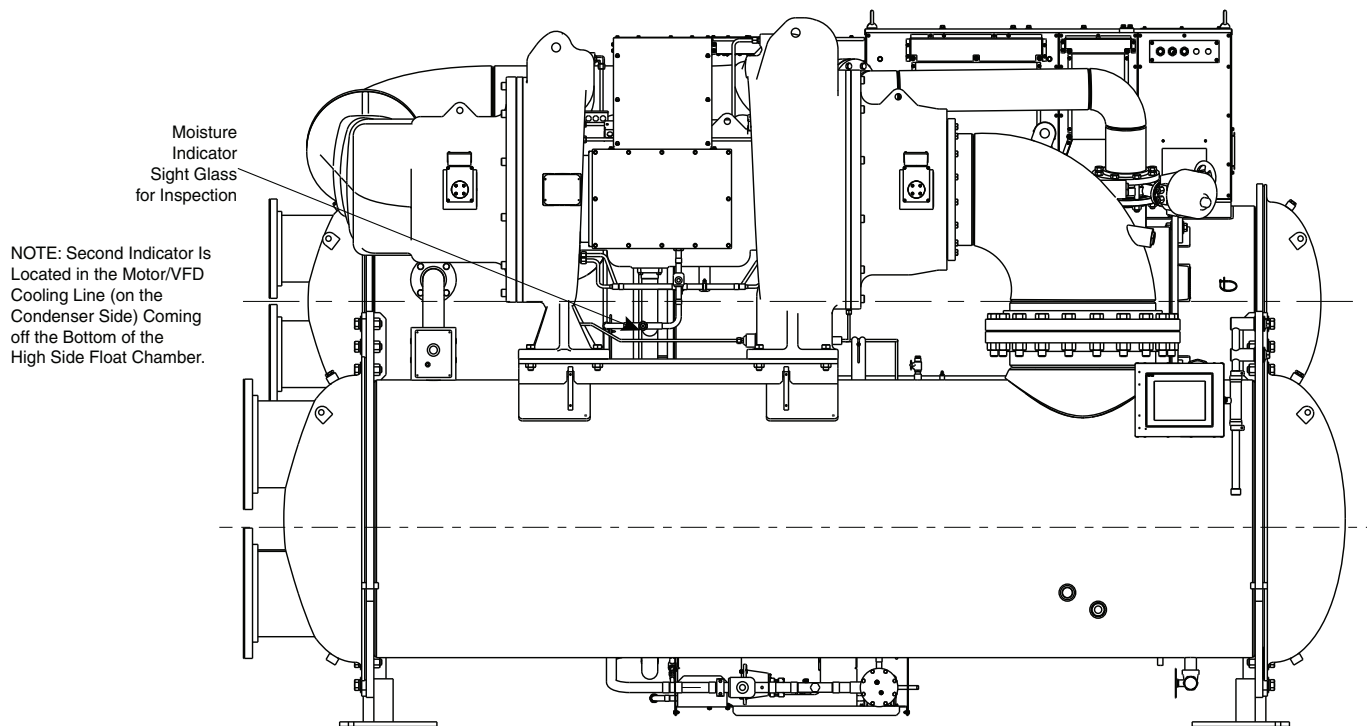

Fig. 45 — Moisture Indicator Sight Glass for inspection
2. Check moisture indicating sight glass on bearing supply line (Fig. 45) as well as on the motor/VFD liquid cooling line (located between vessels feeding of the high side float chamber; sight glass is located downstream of filter drier).